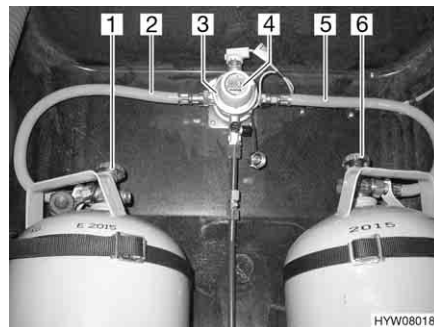
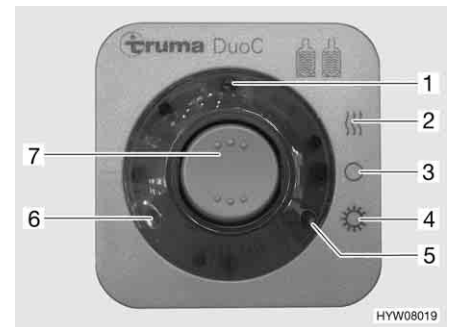

Fig. 123 DuoControl switching facility
Fig. 124 Operating unit
The DuoControl switching facility consists of a reversing valve (Fig. 123,3) and an operating unit (Fig. 124). The reversing valve is installed between the gas tubes (Fig. 123,2 and 5). The knob (Fig. 123,4) on the reversing valve is used to select which of the gas bottles is to be used as a primary bottle and which is to be used as a reserve bottle.
Only the electrical functions can be switched at the operating unit (Fig. 124). The regulator taps on the gas bottles (Fig. 123,1 and 6) must be opened manually.
The reversing valve provides a constant gas pressure, regardless of which gas bottle is being drawn upon. The two indicator lamps on the operating unit indicate the level of the primary bottle. When the green indicator lamp (Fig. 124,6) illuminates, the primary bottle is full. When the red indicator lamp (Fig. 124,5) illuminates, the primary bottle is empty. In this case, the reserve bottle is used for the gas supply.
- Open the regulator taps on the gas bottles (Fig. 123,1 and 6).
- Use the knob (Fig. 123,4) on the reversing valve (Fig. 123,3) to select the gas bottle which is to be the primary source of gas (primary bottle). Always turn the knob as far as it will go.
- Switch on the DuoControl switching facility at the operating unit (Fig. 124). To do so, set the rocker switch (Fig. 124,7) to winter operation "On and heating" (Fig. 124,2) or to summer operation "On" (Fig. 124,4). The reversing valve is now deaerated. The yellow indicator lamp (Fig. 124,1) illuminates if the winter operation has been selected and the regulator defroster is activated.
- Set the rocker switch (Fig. 124,7) to "O" (Fig. 124,3). The yellow indicator lamp (Fig. 124,1) goes out.
- Close the regulator taps on the gas bottles (Fig. 123,1 and 6).
The indicator lamps on the operating unit (Fig. 124,5 and 6) indicate in the vehicle interior whether the primary bottle is ready for operation.
If the green indicator lamp (Fig. 124,6) stops illuminating during operation and the red indicator lamp (Fig. 124,5) illuminates, the gas bottle selected as primary bottle is empty and needs to be changed. The reserve bottle continues supplying the gas appliances with gas.